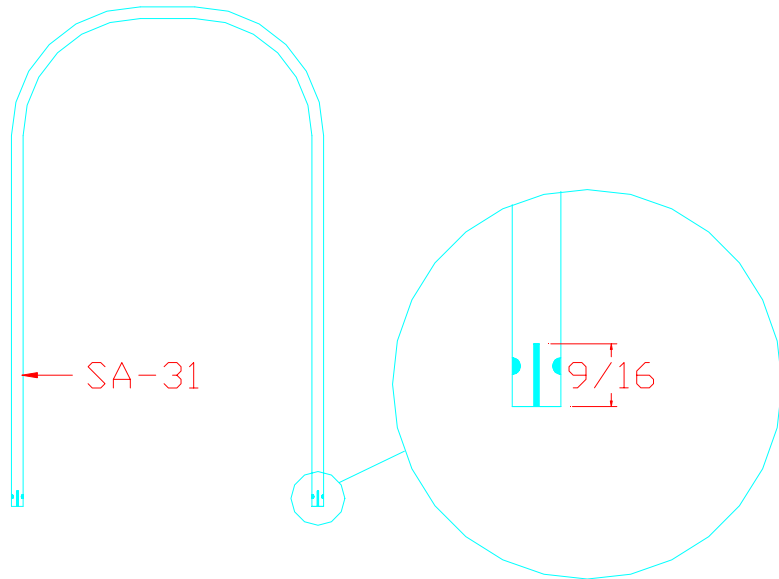

Figure 22.2.4
- 6) Cut two slots in the ends with a hacksaw. Figure 22.2.4.